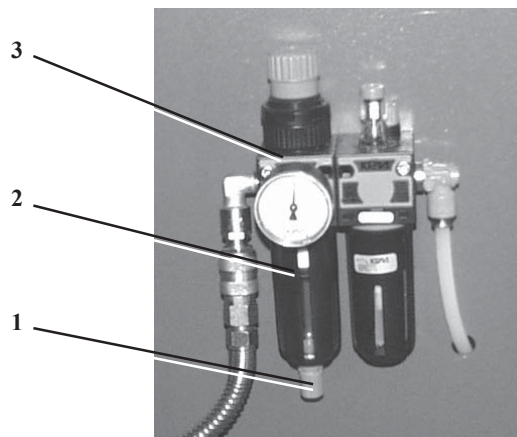

Fig. 7.1
- The machine is in standby, connected to the dair supply: open the valve (1, fig. 7.1) in order to release possible condensate accumulated inside the tank(2) of regulator (3).